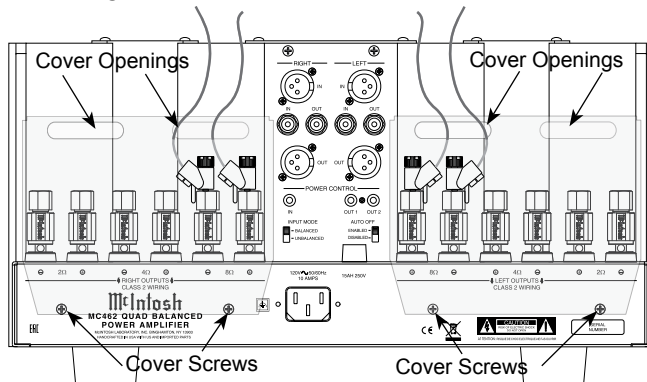

Figure 5 (Inside USA and Canada)
5. Locate the Terminal Connection Covers from the inside of the MC462 shipping carton. Insert the just prepared Loudspeaker hookup cables thru the cover openings, one cover for each channel. Refer to figure 5.
Note: The illustration in figure 5 is connections for 8Ω (ohms) Loudspeakers.
9. Attach the Terminal Connection Covers to the MC462 Rear Panel with the previously removed Screws. Refer to figure 5.
7. Locate the Terminal Connections Covers from the inside of the MC462 shipping carton. Insert the just prepared Loudspeaker hookup cables thru the cover openings, one cover for each channel. Refer to figure 5.
11. Attach the Terminal Connections Covers to the MC462 Rear Panel with the previously removed Screws. Refer to figure 5.